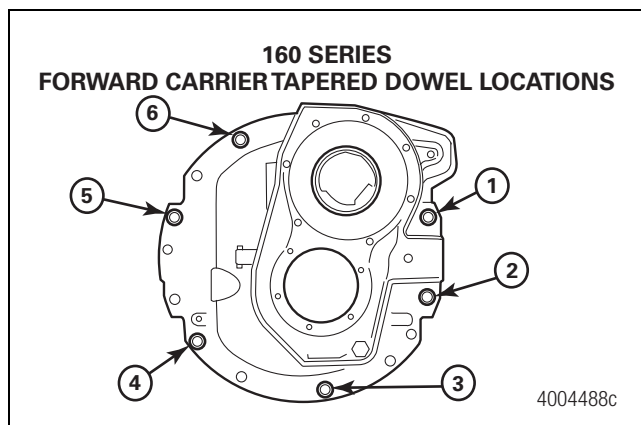
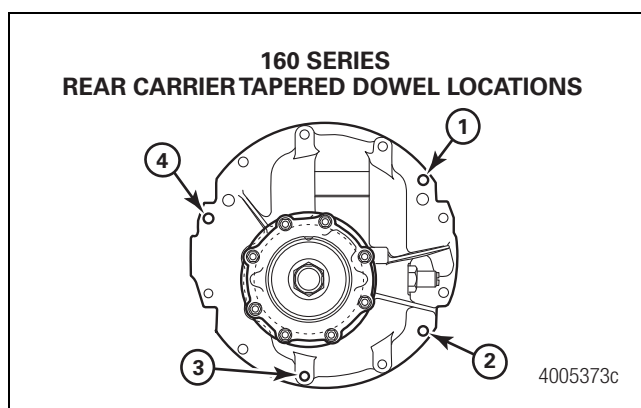
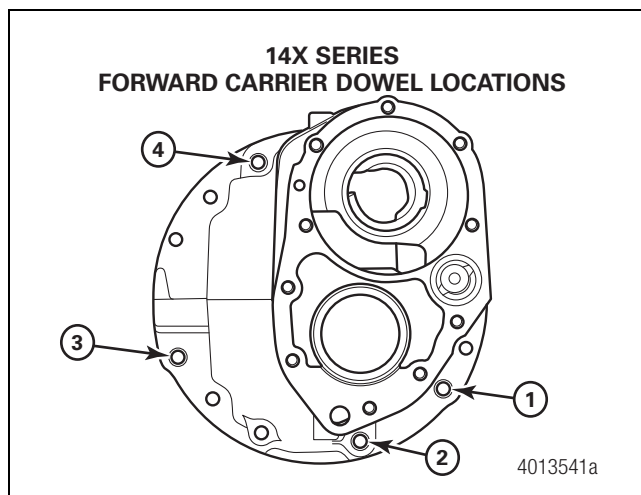

Figure 4.18
Figure 4.19
Figure 4.20
1. Verify that the tapered reamer bit pilot fits in the carrier flange holes. Figure 4.18, Figure 4.19 and Figure 4.20.